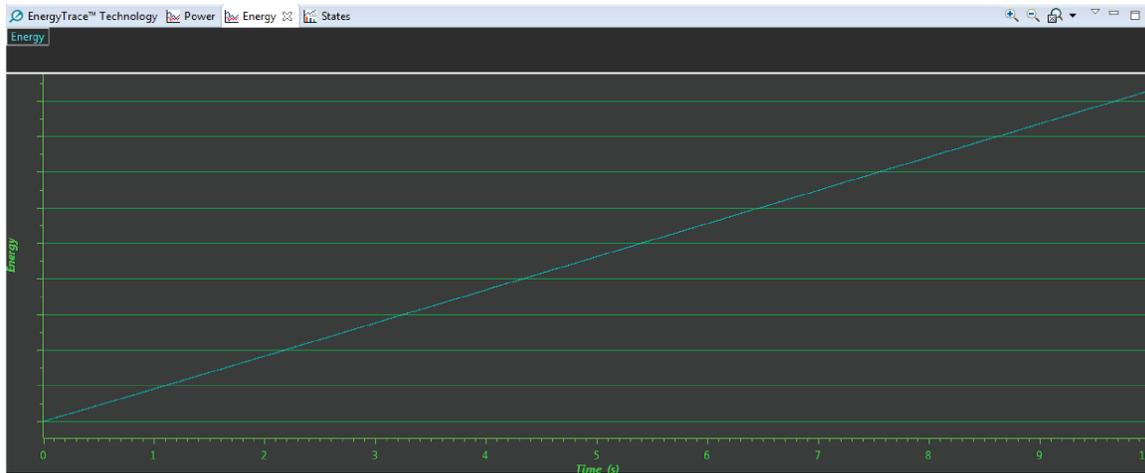

Figure 14. Inefficient.c Energy
- Click the *Energy* tab (see Figure 14). To zoom in, click and drag across the horizontal (time) axis or the vertical (energy) axis. To reset to the original view, click the *Reset Zoom* or *Select Zoom Options* button  .